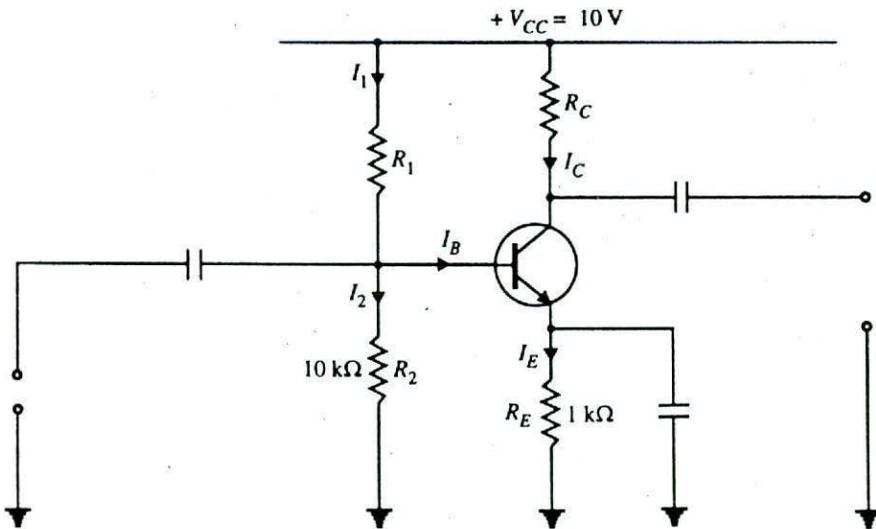

Fig. 11.21
**Example 11.18.** The potential divider circuit shown in Fig. 11.21 has the values as follows:  $I_E = 2 \text{ mA}$ ,  $I_B = 50 \mu\text{A}$ ,  $V_{BE} = 0.2 \text{ V}$ ,  $R_E = 1 \text{ k}\Omega$ ,  $R_2 = 10 \text{ k}\Omega$  and  $V_{CC} = 10 \text{ V}$ . Find the value of  $R_1$ .